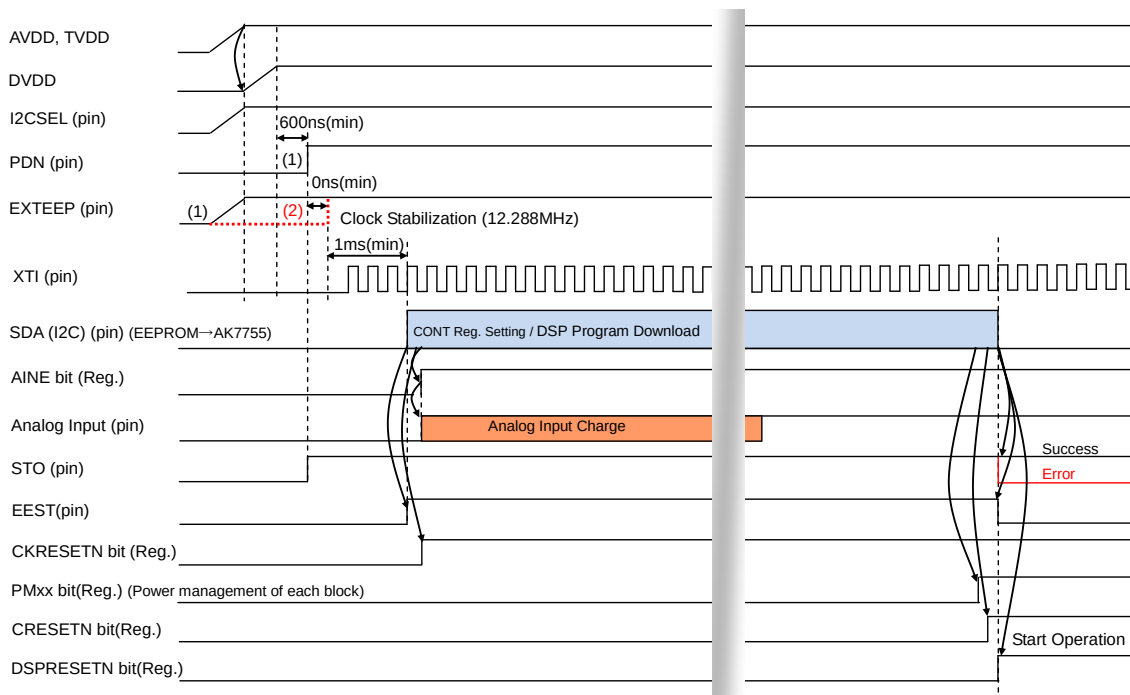
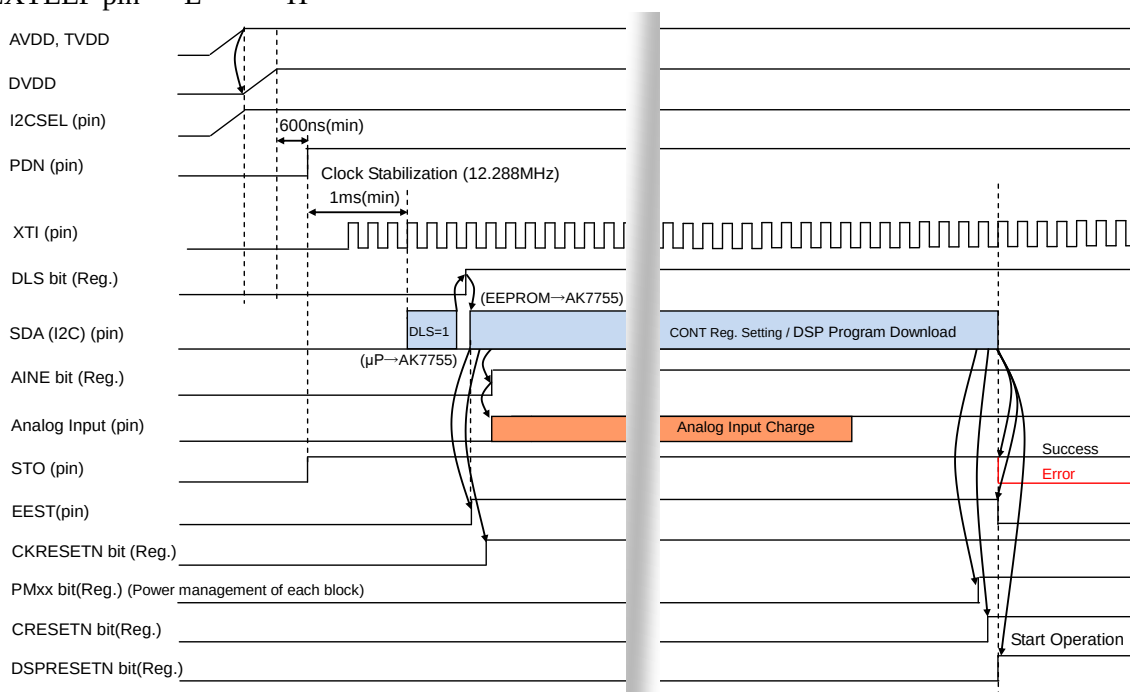

Figure 26. Power-up Sequence 3
Figure 27. Power-up Sequence 4
When downloading programs from an EEPROM, I²C interface (I2CSEL pin = "H") and a 12.288MHz clock input to the XTI pin are necessary, or a 12.288MHz crystal oscillator must be connected to the XTI and XTO pins. In this case, only CKM mode 0 and 2 (CONT00: D6-D4) are available. The AK7755 should be powered up when the PDN pin = "L". AVDD and TVDD must be powered up first before DVDD when DVDD is supplied externally (LDOE pin = "L"). In this case, the power-up sequence between AVDD and TVDD is not critical. Set the PDN pin to "H" to start the power supply circuits for REF (analog reference voltage source) generator and internal digital circuit (only when the LDOE pin = "H") after all power supplies are fed. There are three ways to start downloading control register settings, DSP programs and Coefficient RAM: by PDN pin (1) (Figure 26), by EXTEEP pin (2) (Figure 26) and by DLS bit (3) (Figure 27).